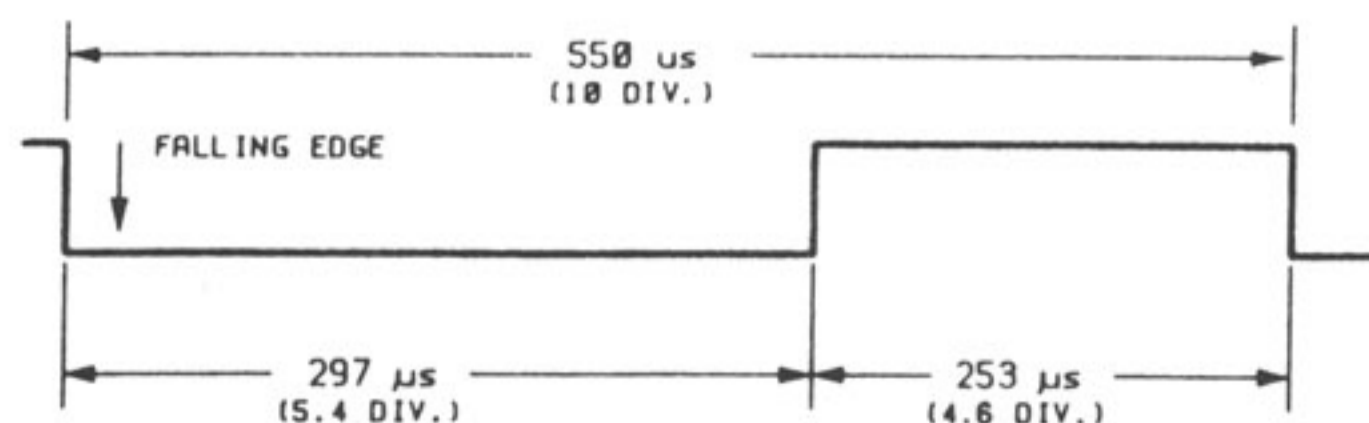

Figure 7-12. RV1, RV2 Duty Cycle Adjustment
STEP 6. Set the oscilloscope to falling edge triggering and connect the oscilloscope probe to TP9 on the CPU. Adjust RV1 on the CPU to achieve the duty cycle as shown in Figure 7-12.
- STEP 9.** Set the oscilloscope to falling edge triggering and connect the oscilloscope probe to TP10 on the CPU. Adjust RV2 on the CPU to achieve the duty cycle as shown in Figure 7-12.